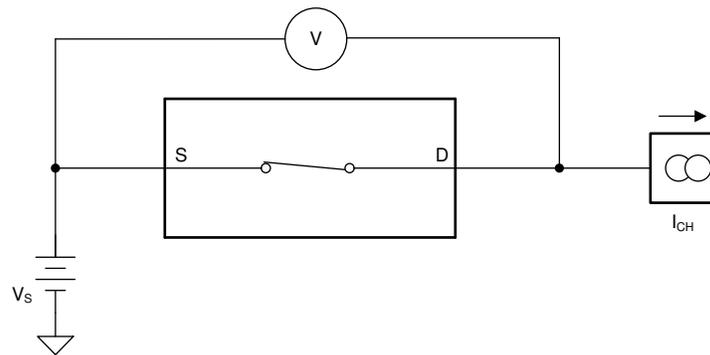

Figure 17. On-Resistance Measurement Setup
The on-resistance of the TMUX6111, TMUX6112, and TMUX6113 is the ohmic resistance across the source (Sx) and drain (Dx) pins of the device. The on-resistance varies with input voltage and supply voltage. The symbol R_{ON} is used to denote on-resistance. The measurement setup used to measure R_{ON} is shown in Figure 17. Voltage (V) and current (I_{CH}) are measured using this setup, and R_{ON} is computed as shown in Equation 1: